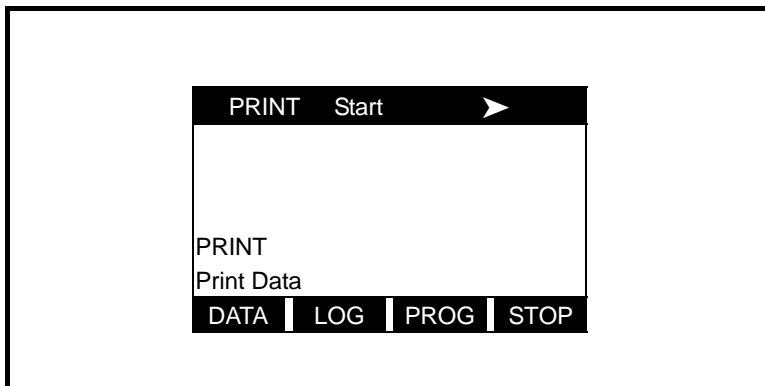

Figure 5-1: Printer Screen
To access the printer options, press the [PRNT] key. The screen should appear similar to that shown in Figure 5-1 below.
1. Press [PRNT]. A screen similar to Figure 5-1 on page 5-1 appears.